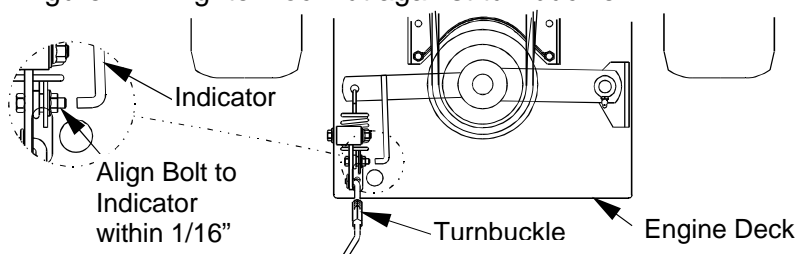

FIGURE 11
- b) With PTO engaged, adjust the linkage length by loosening the locknut on the turnbuckle and adjusting the turnbuckle so that the bolt on the bellcrank and the indicator arm align with each other within 1/16" (.16 cm). See Figure 11. Tighten locknut against turnbuckle.